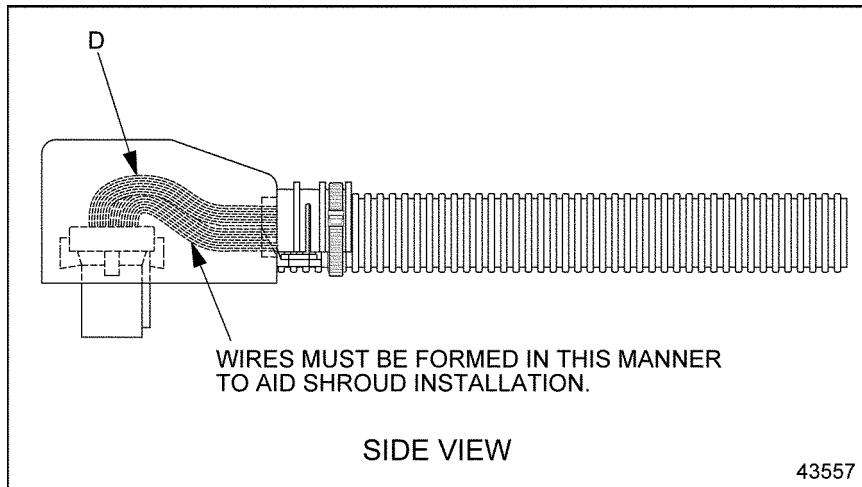

Figure 3-16 Side View of Shroud, ECU Connector and Conduit
- Ensure that the wires are not pinched between the connector and any of the shroud's protrusions during assembly (see Figure 3-16, D).